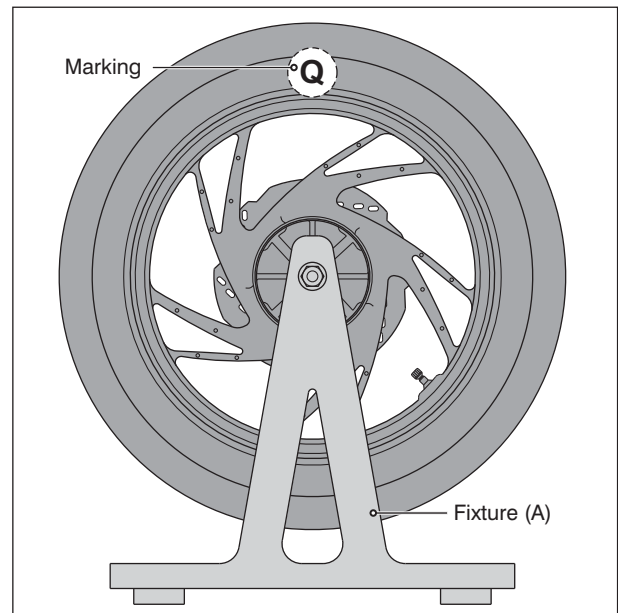
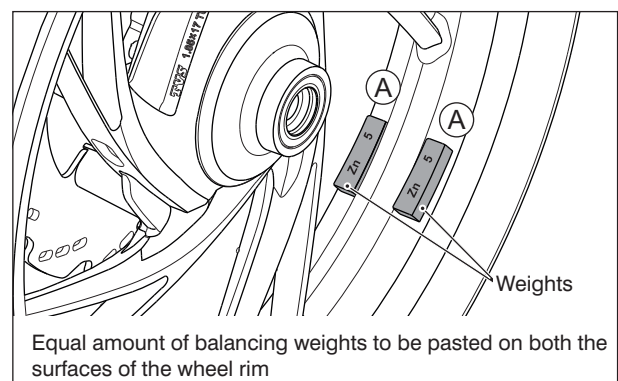

Fig. 2.131
Fig. 2.132
- Rotate the wheel by hand and mark (Q) at the top as shown in the figure when the wheel stops rotating (comes to a halt). (Fig. 2.131)
1. Clean the exposed surface (A) of the wheel rim with IP 80% solution (cleaning agent) near the position 'Q' marked. (Fig. 2.131 & Fig. 2.132)